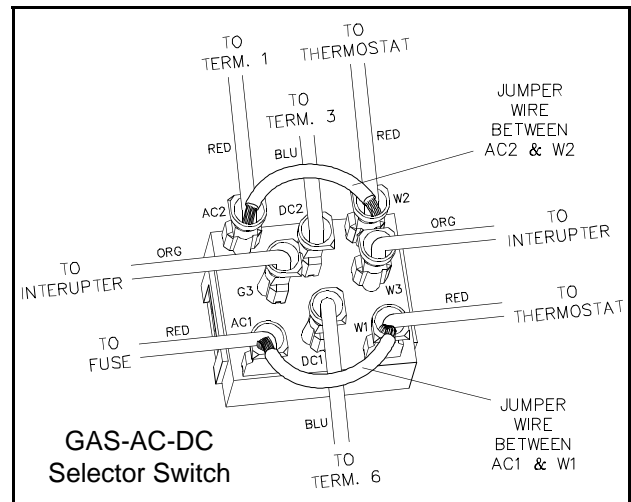

Figure 6 - Selector Switch - Jumpers on AC Section
- b. With the AC cord disconnected, lay back the Control panel as described in Step (a) and place one jumper from AC2 to W2 and another jumper from AC1 to W1 according to Figure 6. If AC is now energized when power is applied, replace the Selector Switch per replacement procedure on page 12-20.
- b. With the AC cord disconnected, lay back the Control panel as described above and place one jumper from AC2 to W2 and another jumper from AC1 to W1 according to Figure 6. If AC is now energized when power is applied, replace the Selector Switch per replacement procedure on page 12-20.